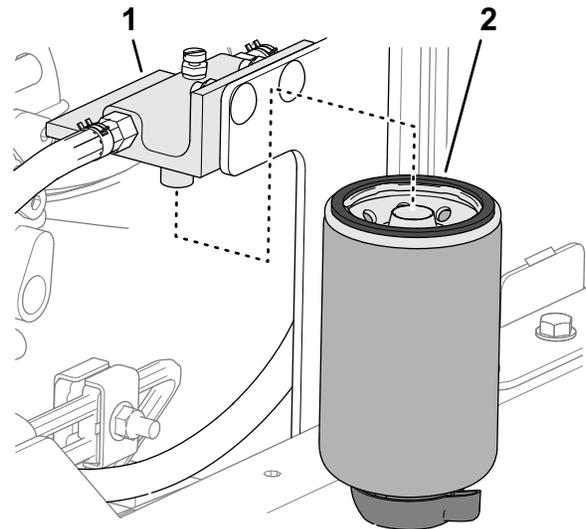

Figure 83
2. Clean the filter head and filter canister (Figure 83).